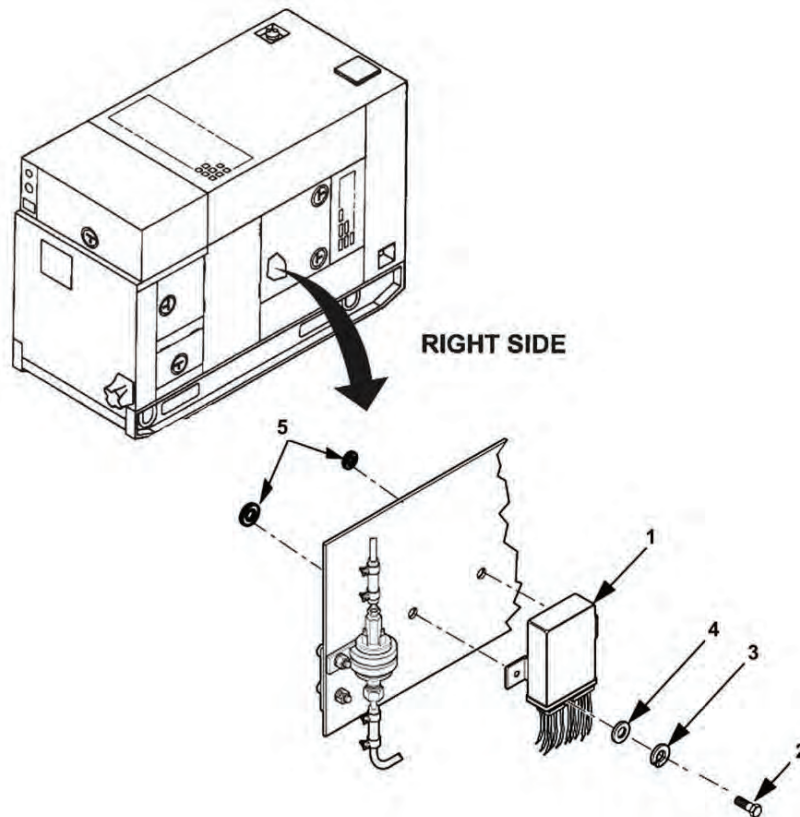

Figure 1. Control Unit Removal.
7. Remove two nuts (Figure 1, Item 5), bolts (2), flat washers (3), lockwashers (4) and control unit (1) from engine access side of output box. Replace existing hardware.